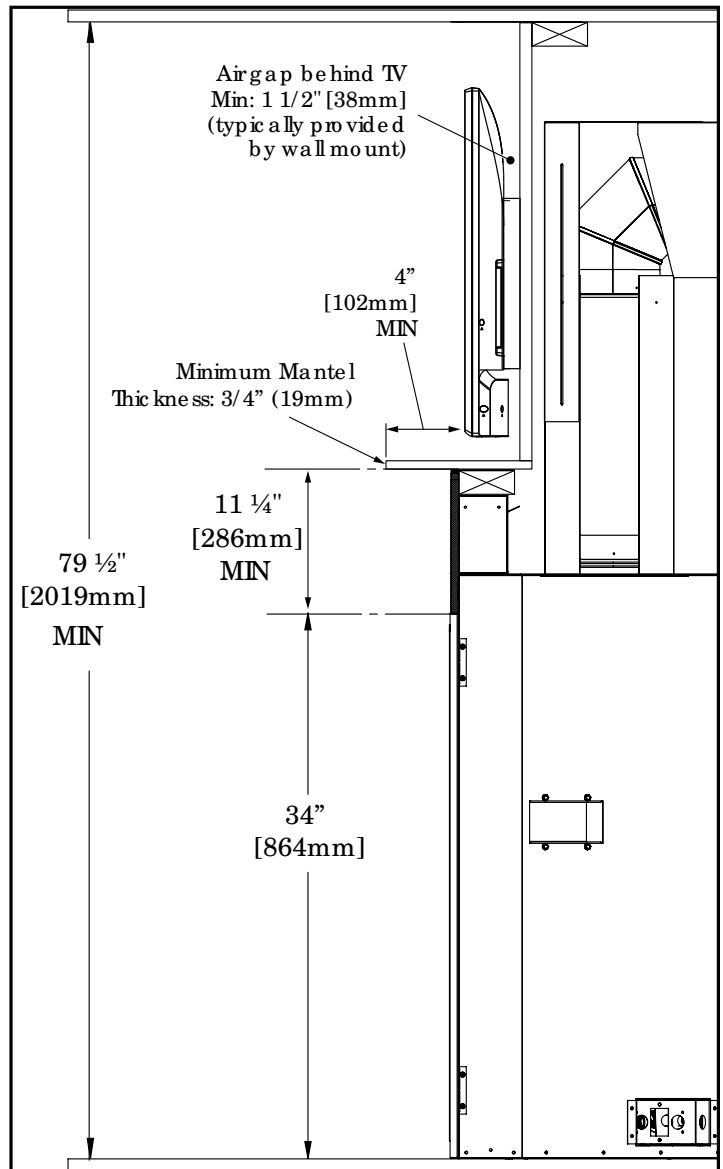

Figure 60: Recess w/ Mantel TV - TV Installation
**Recess Installation w/ Mantel:** Always maintain minimum clearances (see Figure 60). The total depth of the TV and wall mount as well as the recess depth will determine the minimum required mantel depth. See “INITIAL INSTALLATION - MANTEL CLEARANCES” and “INITIAL INSTALLATION - RECESS INSTALLATION” for more information.